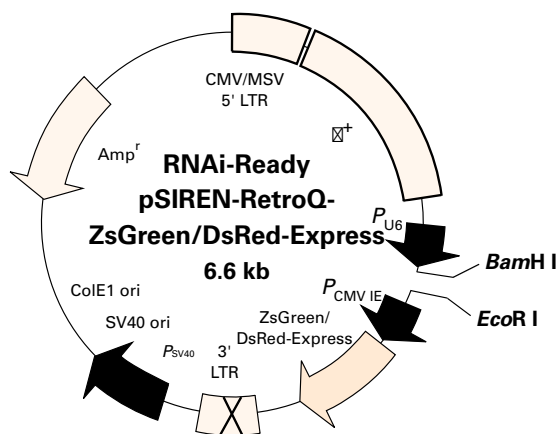

Figure 2. Map of the RNAi-Ready pSIREN-RetroQ Vectors.
RNAi-Ready pSIREN Vectors express high levels of shRNA from the human U6 promoter (P_{U6}) to generate effective gene knockdown (Figure 1). The vectors are provided in a RNAi-Ready (linear) form, predigested with BamHI and EcoRI, and are ready for cloning of a dsDNA oligo that encodes your shRNA. These vectors can be delivered by your favorite transfection method; additionally, the **pSIREN-RetroQ vectors** (Figure 2) can also be used to generate retrovirus from a packaging cell line.
Figure 2. A Lenti-X virus harboring a potent anti-luciferase shRNA construct effectively inhibited luciferase expression in HEK 293 cells. HEK 293 Tet-Off cells that stably express high levels of luciferase from pTRE-Luc were either untreated (MOI=0) or transduced with LVX-shRNA1 lentivirus (MOI=10) encoding the anti-luciferase shRNA. Cells were harvested 48 hr after transduction and then assayed for luciferase activity.
With all of our inducible RNAi systems, knockdown of your target gene's expression can be detected within 24 hours of Dox addition, while maximum knockdown is typically seen within 48 hours (Figure 2). This rapid response is possible because transcription from $P_{Tet/U6}$ is actively suppressed by tTS.
With the **Knockout™ Single Vector Inducible RNAi System**, once your shRNA sequence is cloned in the pSingle-tTS-shRNA vector, the resulting plasmid contains all the features necessary for inducible gene knockdown (Figure 2).
Figure 2. Doxycycline-induced knockdown of lamin A/C in HeLa cells. A stable HeLa cell line that expresses an anti-lamin A/C shRNA was produced using the Knockout Single Vector System. Suppression of lamin A/C expression is evident after 6 hr of treatment with Dox, and knockdown was virtually complete after 48 hr. Lane 1: control. Lanes 2–4: 6 hr, 48 hr, and 72 hr, respectively.
The ProLabel assay is based on enzyme fragment complementation (Figure 1; 2, 3). The ProLabel tag is a small (6 kDa) enzyme fragment that is fused to the N- or C-terminal of your recombinant target protein using the **ProLabel Quantitative Expression Vector Set**. When lysates from cells expressing your ProLabel-tagged fusion protein are combined with the Enzyme Acceptor (EA) solution, the two enzyme fragments form a complete, active enzyme that cleaves a chemiluminescent substrate. The chemiluminescence produced is proportional to the amount of fusion protein present, and can be used to quantify protein levels and gene knockdown (Figure 2). The EA and chemiluminescent substrate are supplied in the **ProLabel Detection Kit II**.
Figure 2. ProLabel assays allow you to measure protein knockdown. HEK 293 cells were cotransfected with individual shRNA expression cassettes (generated with our Knockout™ RNAi Clone & Confirm Kits), and their respective ProLabel-tagged target protein constructs. Knockdown efficiency was determined using the ProLabel Chemiluminescent Detection Kit II.